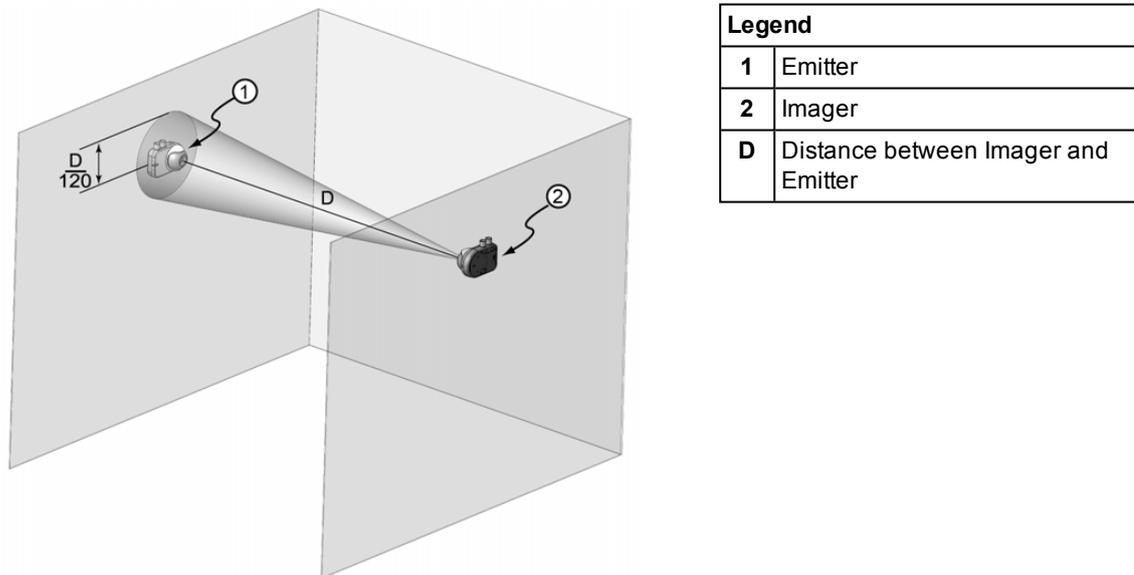

Figure B-2: 10° Imager Alignment
**Note:** Emitter alignment follows the same guidelines as 10° Imager alignment. The Emitter must be positioned with the Laser Alignment Tool to within  $D/120$  of the Imager, where D in Figure B-2 is the distance between the Emitter and Imager.